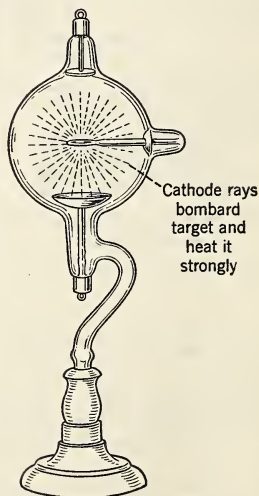

FIG. 745. The cathode rays produce an intense heat effect.
1. *By their heating effects.* If a piece of tungsten is sealed in a tube similar to that shown in Fig. 745, the cathode rays are focused upon it. In a short time the bombardment of the rays upon the tungsten heats it to a white heat.